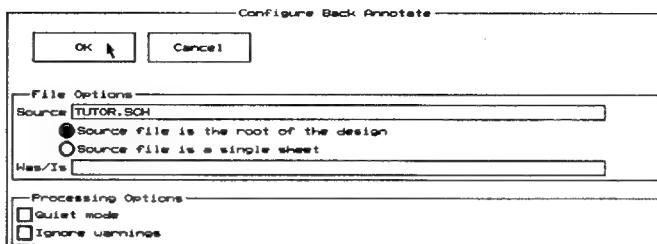

Figure 7-11. The *Configure Back Annotate* screen.
4. Return to the Schematic Design Tools screen and select Back Annotate. Select Local Configuration and then Configure BACKANNO. The screen shown in figure 7-11 displays.